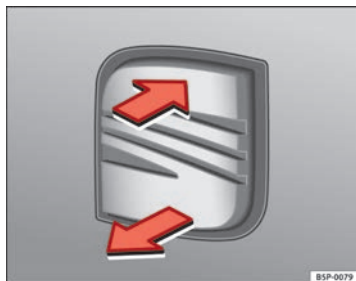

Fig. 48 Rear lid: opening from the outside
- Pull on the release lever and lift the rear lid ⇒ Fig. 48. The rear lid will automatically open.